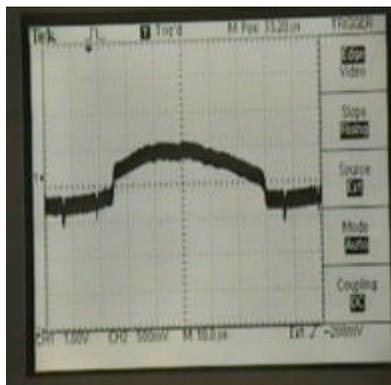
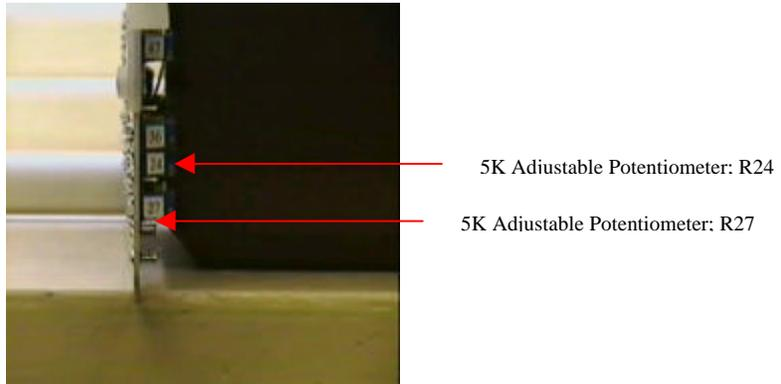
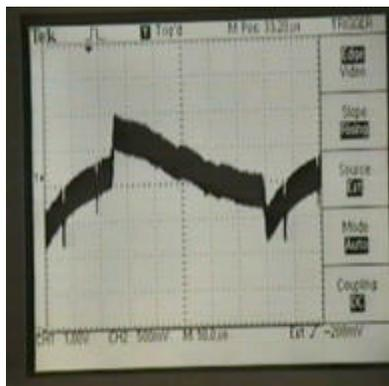
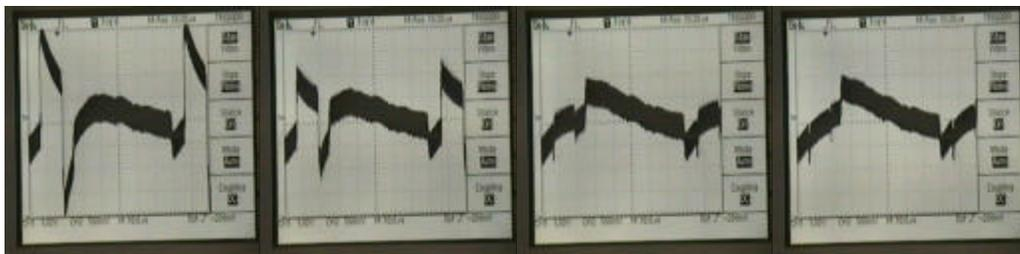

Figure 22 – TP8 Valid Video Signal
Figure 23 – R24 Adjustment Potentiometer
Figure 24 – TP9 Valid Video Signal
Figure 25 – TP9 over sensitive resulting in false signal
Place your oscilloscope probe on TP8. TP8 is the post amplification for the analog hole defect signal (*op amp EL2041;Z12*). The valid video signal should appear similar to that shown in **Figure 22**. There really are no adjustments to make here. Although you can make adjustments, the adjustments are strictly gain related and should be done only by an authorized RKB Service Representative. Adjusting the 5K potentiometer labeled R24 (Figure 23) makes this adjustment. Miss-adjusting this will result in a very sensitive unit that may produce false defects. RKB requires its customers to just note down the signal and to verify. Checking this test point facilitates verification that op amp Z12 is functioning correctly. That is all it is intended for.
Place your oscilloscope probe on TP9. TP9 is the post amplification for the analog hole defect signal (*op amp EL2041;Z13*). The valid video signal should appear similar to that shown in **Figure 24**. There really are no adjustments to make here. Although you can make adjustments, the adjustments are strictly gain related and should be done only by an authorized RKB Service Representative. Adjusting the 5K potentiometer labeled R27 (Figure 23) makes this adjustment. Miss-adjusting this will result in a very sensitive unit that may produce false defects (**Figure 25**). RKB requires its customers to just note down the signal and to verify. Checking this test point facilitates verification that op amp Z13 is functioning correctly. That is all it is intended for.
****NOTE**** Adjustment for the offset as viewed in Figure 25 can be accomplished by adjusting R47 while viewing TP9. It is recommended to do the system check procedures correctly, but if you do not have time, you can look at the final analog output, herein for holes (TP9) just prior to digitization. Same is true for spots by looking at the final analog output for spots (TP6) just prior to digitization. This should only be done in cases where you are running product and need to adjust quickly. This is not the true setup function of this module.